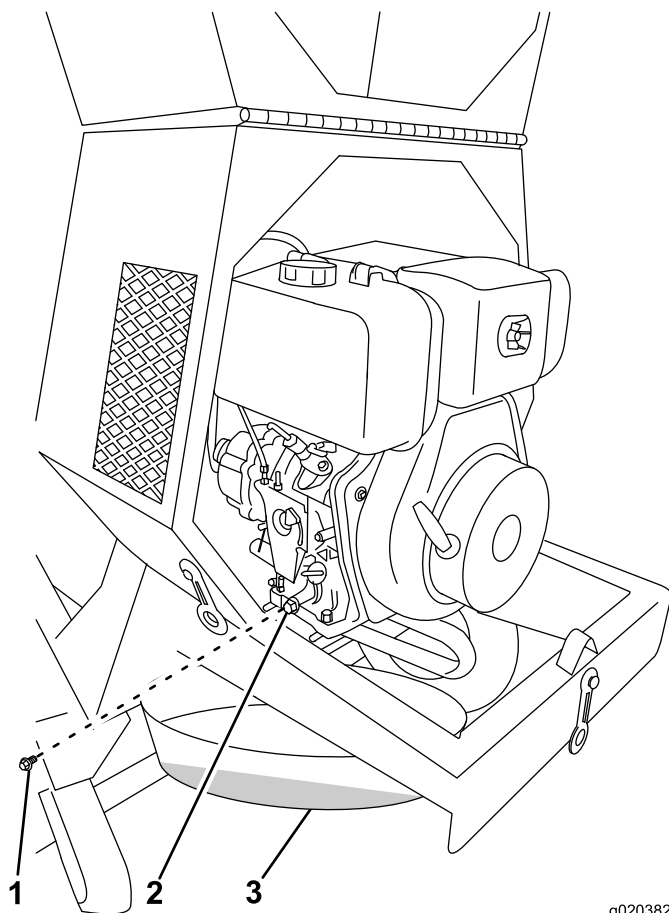

Figure 35
2. Place a oil-drain pan under the oil-drain hole of the engine (Figure 35).
3. Remove the drain plug and catch the oil in the oil-drain pan (Figure 35).
4. When the oil has drained completely, install the drain plug with a new washer (Figure 35).